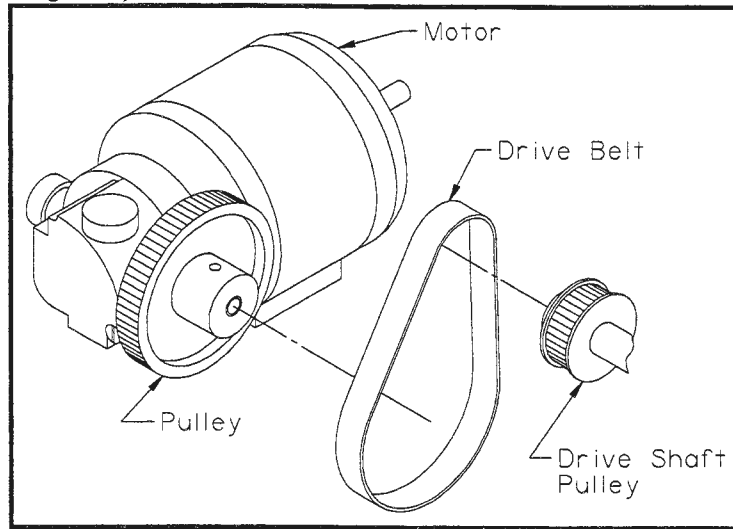

Figure 7
2. To replace the Belt, loop the new Belt over the Drive Shaft Pulley (1180S60) and then slip onto the larger Pulley (1280S196). Care should be taken not to stretch the Belt excessively upon installation. (See Figure 7).